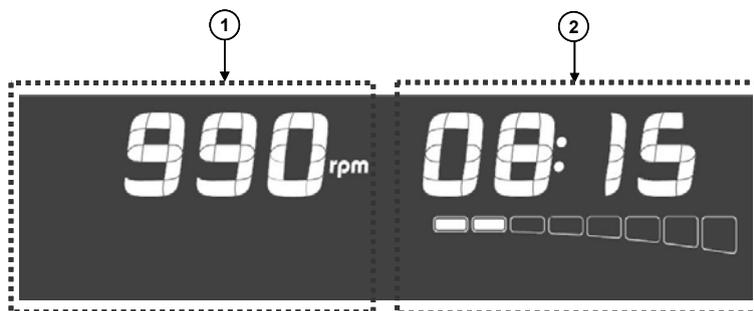

Figure 9: Centrifugation speed information on the Display
As shown by Figure 9, the Display will show, on the left (Ref. (1)), the centrifugation speed of the *DG Spin* Head at this time. The screen, shows in parallel, the timer and the progress bar, on the right (Ref. (2)).